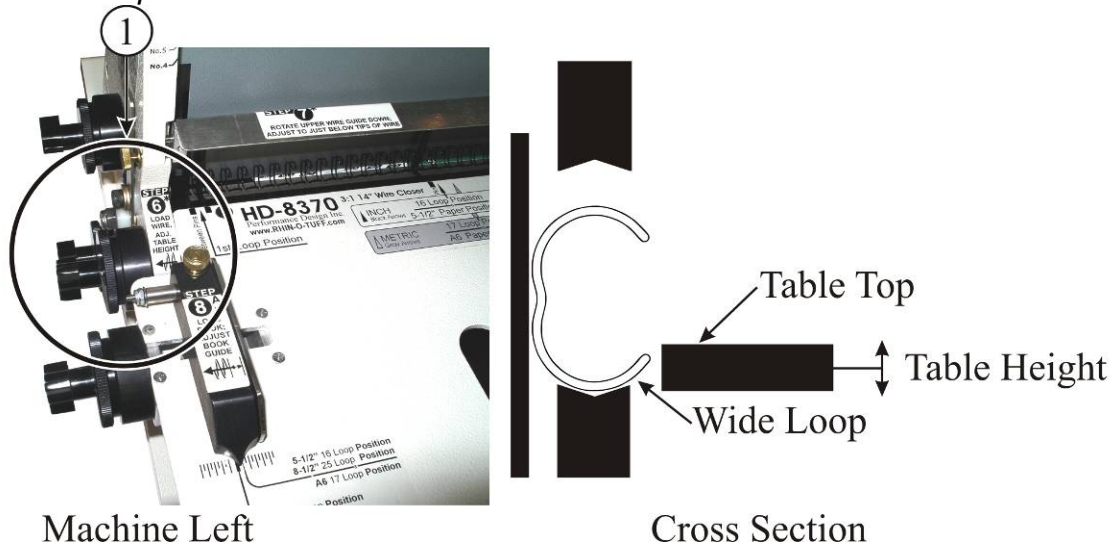

Fig. 6c
STEP 6, Adjust Table Height: See Figure 6c.
Locate the table height adjustment knob (1) only on the left side of the machine, unlock center winged knob and turn the outside dial until the wide loops of wire are slightly below table's edge. As shown in Figure 6c Cross Section. Lock the center winged knob.